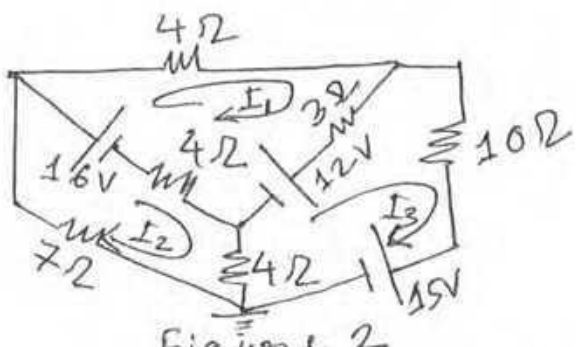

Figure 2
2. For the circuit shown in Fig. 2, determine the value of currents I_1 , I_2 and I_3 by using the Mesh analysis technique.